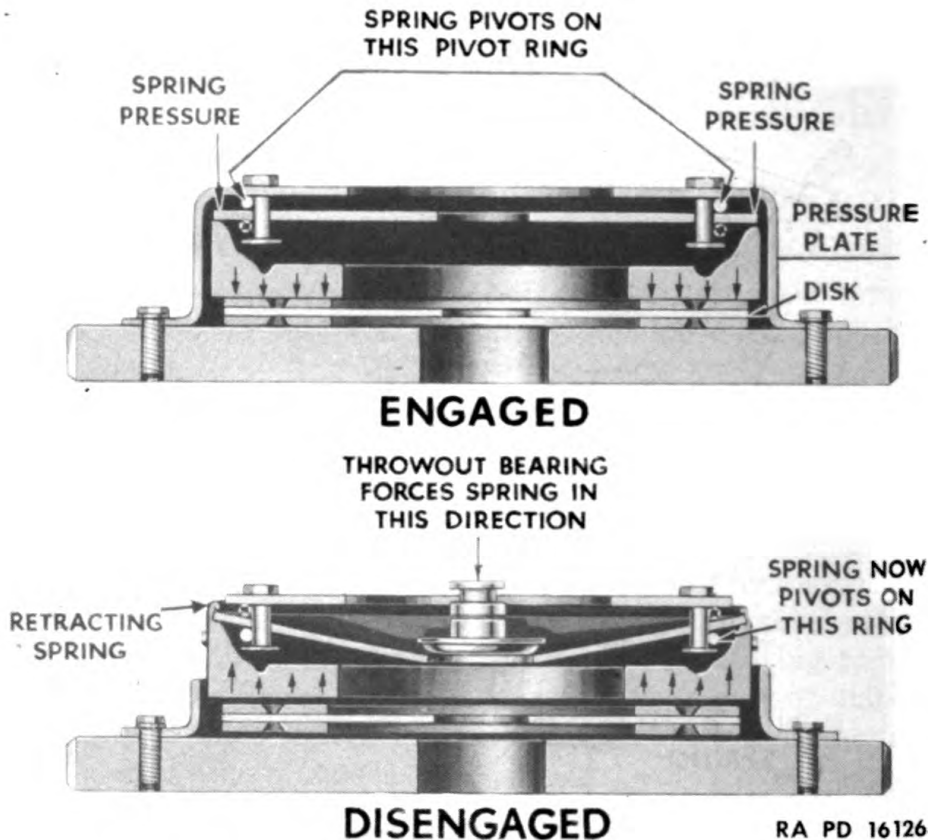

Figure 84—Engaged and Disengaged Positions
a. Action of clutch is illustrated in Fig. 84 which shows relative positions of parts when clutch is "engaged" and "disengaged." Note that when engaged, clutch disc is contacting face of flywheel, being firmly held in this position by clutch pressure plate—which, in turn, is forced toward flywheel by pressure exerted upon it by the diaphragm spring. With clutch in this engaged position, engine and transmission are connected. Pressing down on clutch pedal disengages clutch, thus severing connection between engine and transmission.